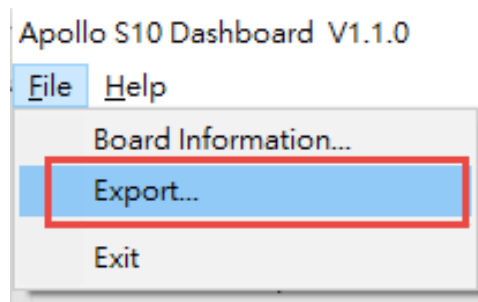
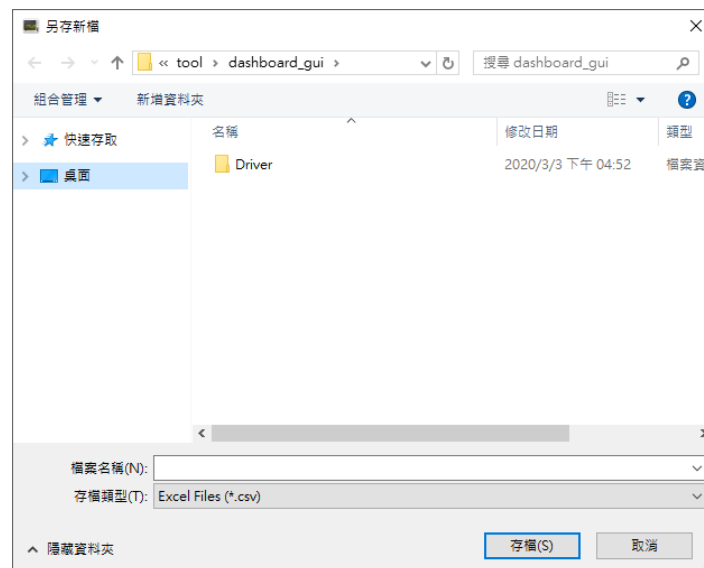

Figure 4-15 Export the log file
Figure 4-16 Export the log file in .csv format
- **Log File:** On the upper left of the Dashboard GUI program window, click the Export in the File page to save the board temperature, fan speed and voltage data in .csv format document, as shown in **Figure 4-15** and **Figure 4-16**.